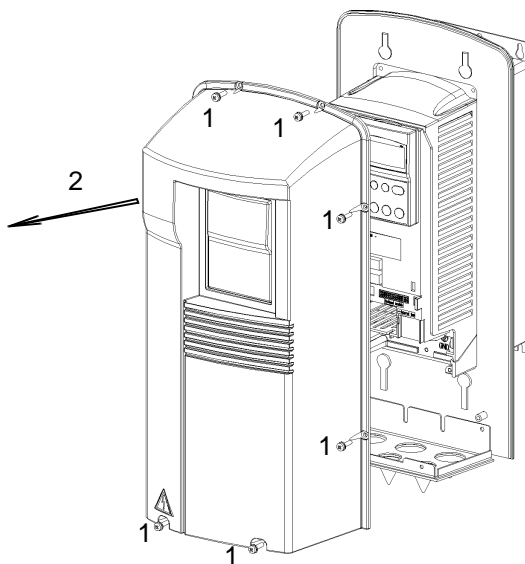

Figure 10 Opening type IP 54 / NEMA1 frequency converters.
- 1 Remove the front cover, see Figure 10.